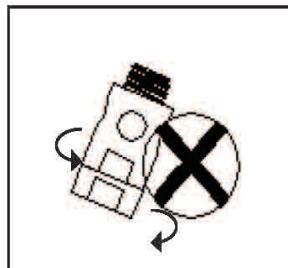

FIGURE 4/ 图 4
- Insert sight glass into inlet of nozzle, wrench the body of sight glass and nozzle.(Figure4)
- 将视油镜的外螺纹部分旋入加油枪进油口,然后用扳手拧视油镜的壳体。(图 4)